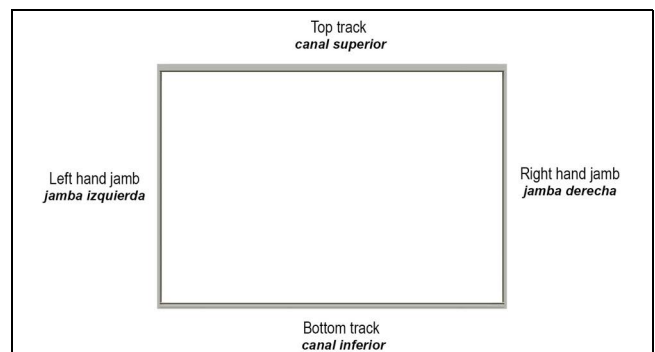

Figure 1
1. Flat surface free of dirt and debris, large enough to lay out a frame of up to 20' x 8' to be assembled. Below is the Bi-fold frame looking from exterior. See Figure 1.